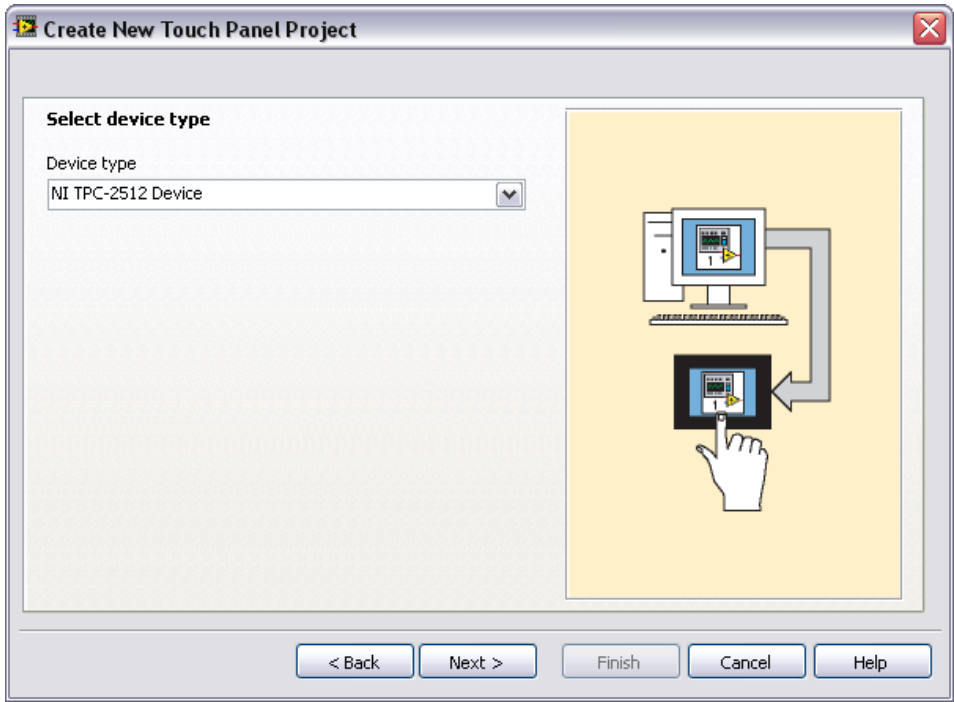

Figure 12. Selecting the Target
4. Select the Touch Panel device you are using. Select **NI TPC-2512 Device** from the **Device type** pull-down menu, as shown in Figure 12.